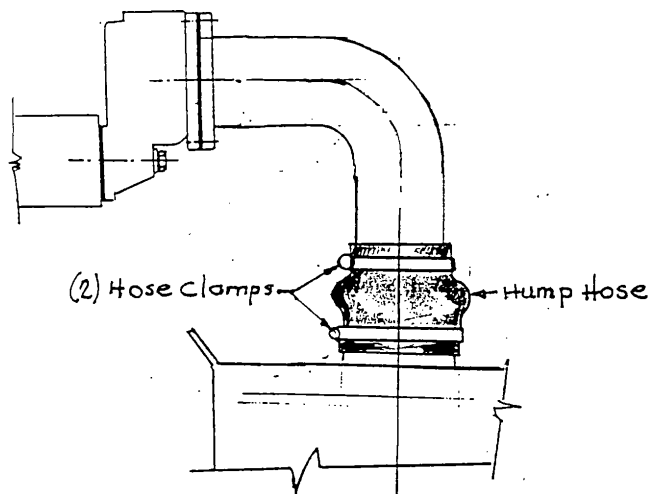

Figure 9. Hose Connection Between Exhaust Pipe
- (WEEKLY) 15. ( ) The Hump Hose connecting the exhaust pipe to the exhaust conditioner has no leaks or cracks and the two hose clamps are in place and tight. See Figure 9.